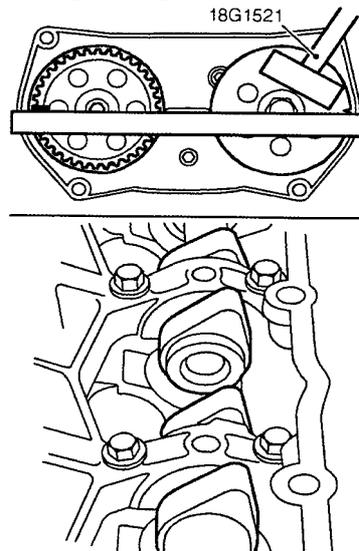

Figure 31
- Using a screwdriver, rotate the control shaft as far as possible in an anti-clockwise direction, figure 31, as viewed from the front of the carrier, noting that the slots should be visible in both VVC control sleeves.